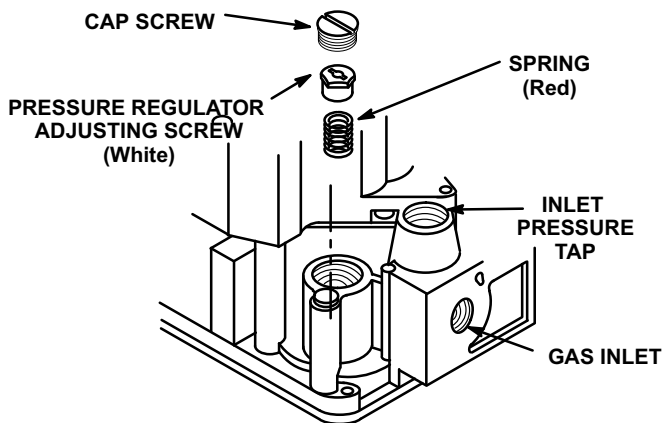
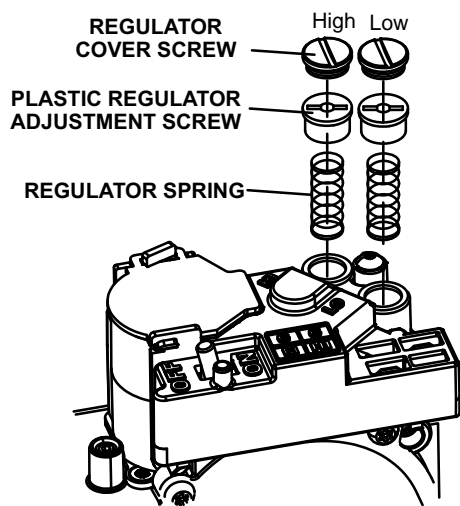

FIGURE 3
FIGURE 4
- 6- Install spring kit as shown in figure 3 for single-stage gas valves and figure 4 for two-stage gas valves. Also refer to the manufacturer's instructions provided with spring kit.